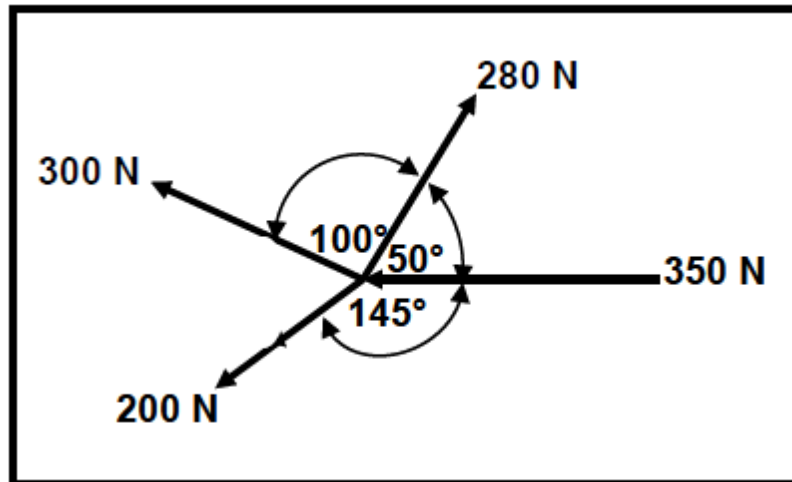

FIGURE 2.4
2.4 In FIGURE 2.4 four forces of 200 N, 300 N, 280 N and 350 N are acting on the same point.